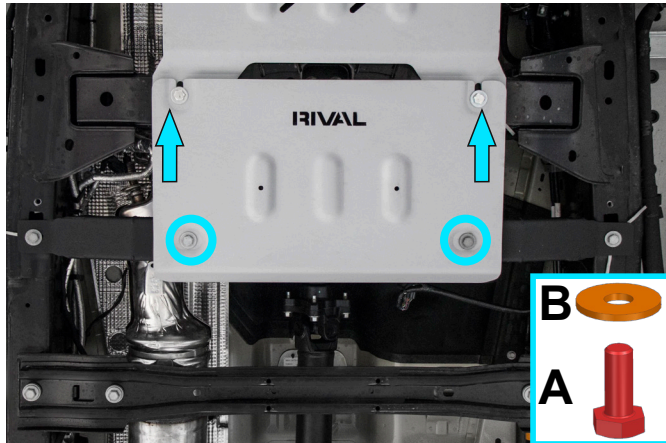

Fig. 10
8. Put transfer case skid plate (item 1) on installed bolts M10x30 and washers 10 from step 7. Fix the rear part of skid plate to mount bracket, using bolts M10x30 (item A) and washers 10 (item B), as shown in fig.10.